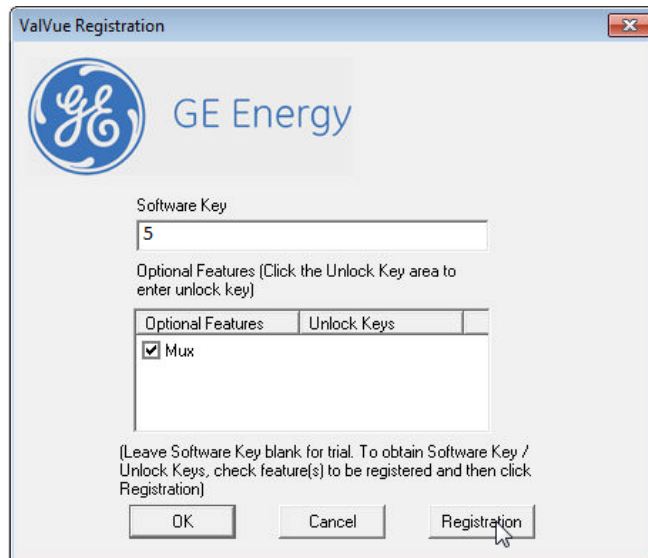

Figure 37 Entering Software Key
4. Click **OK**. On the 2nd registration screen, enter the software key returned by the factory (Figure 37).